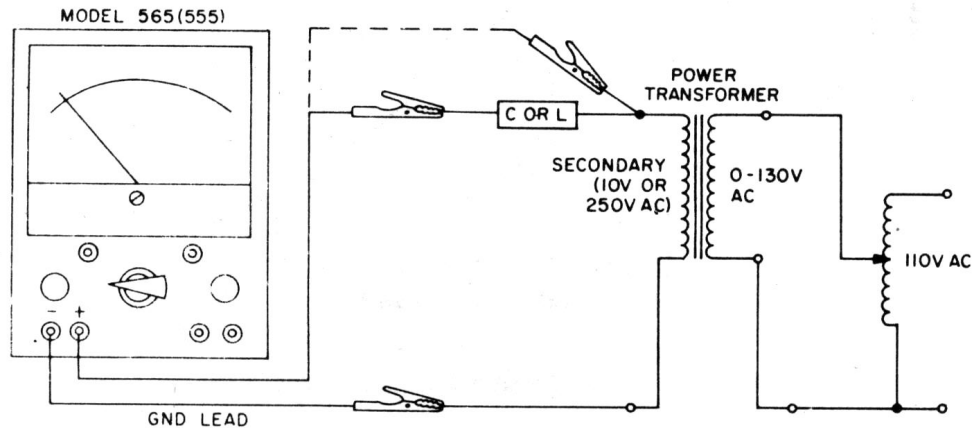

Figure 2. Connections for Capacitance or Inductance Measurements
1. Set up the MODEL V-20 and the external power source as shown in figure 2.
3. With the capacitance or inductance in series with the secondary of the power transformer, as shown in figure 2, read the voltage on the meter; then refer to table 1 (capacitance of .009 MF to 1MF), table 2 (capacitance of .0001 MF to .03 MF), or table 3 (inductance of 5H to 1000H) to obtain the corresponding value of capacitance or inductance.